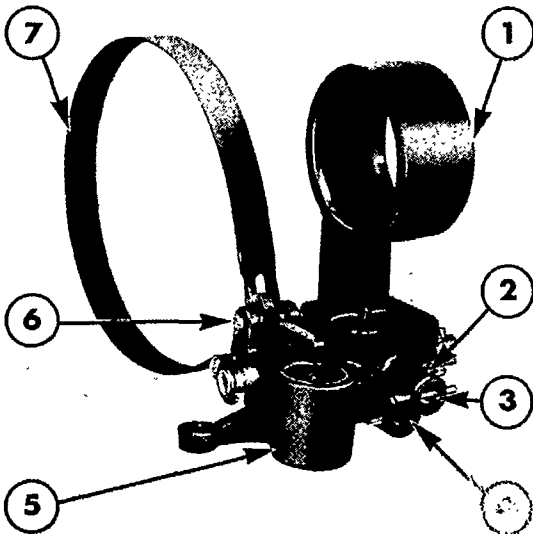

Figure 10
1. Remove the cotter pin and clevis pin from the valve body, Figure 10, then remove the brake band assembly.